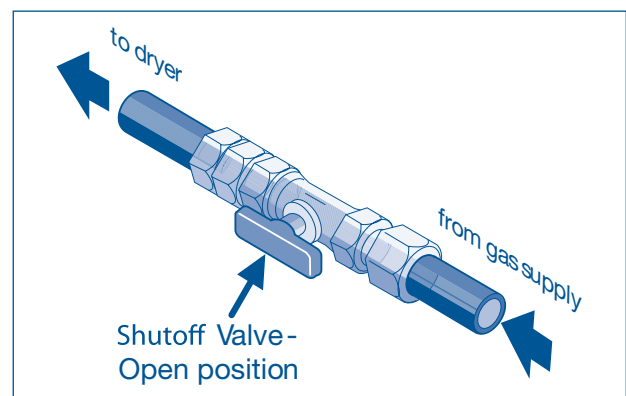

**Figure 2-12.**
2. Connect a 1/2 inch (1.27 cm) I.D. semi-rigid or approved pipe from gas supply line to the 3/8 inch (0.96 cm) pipe located on the back of the dryer. Use a 1/2 inch to 3/8 inch (1.27 cm to 0.96 cm) reducer for the connection. Apply an approved thread sealer that is resistant to the corrosive action of liquefied gases on all pipe connections. (See Figure 2-12)